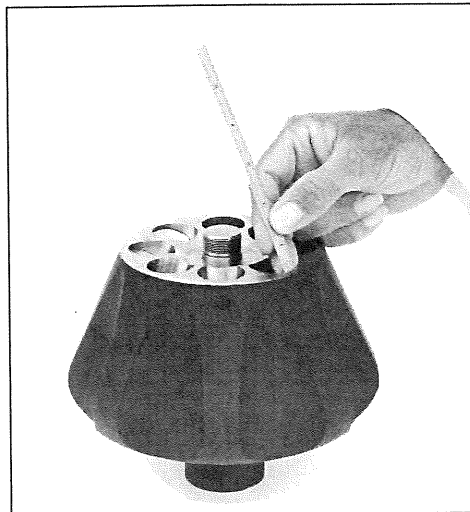

Figure 3. Measuring Distance from Cap to Rotor Tray
3. Measure the distance from the top of the cap to the outer top surface (O-ring surface) of the rotor. This should be at least 8 mm (0.33 in.), as shown in Figure 3.